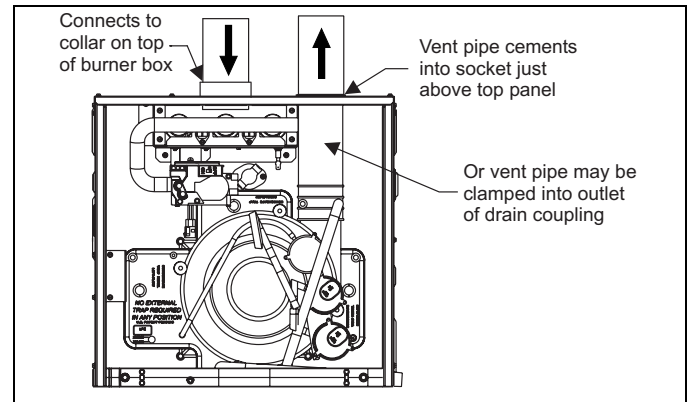

FIGURE 36: Direct Vent Air Intake Connection and Vent Connection
2. **AMBIENT COMBUSTION AIR:** Combustion air is supplied from the area surrounding the furnace through openings in the furnace casing. The combustion air and the vent pipes are not terminated in the same atmospheric zone. Refer to Figure 30 for vent terminations. Refer to "Ambient Combustion Air Supply" for proper installation. Refer to Figure 36.